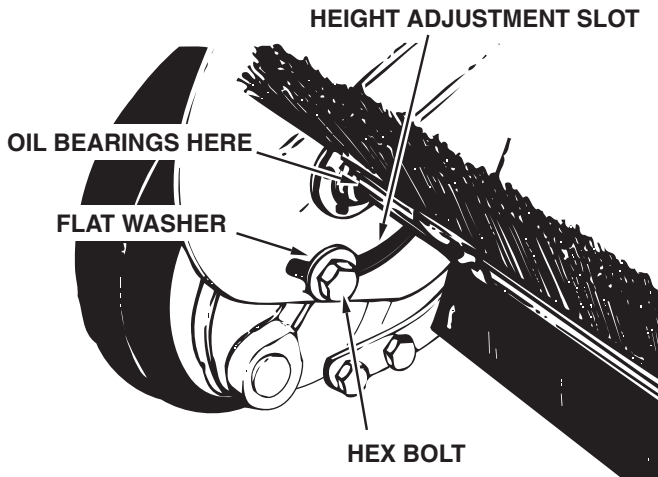

FIGURE 27
3. Lubricate the brush shaft bearing twice a year with a few drops of light weight oil. See figure 27.